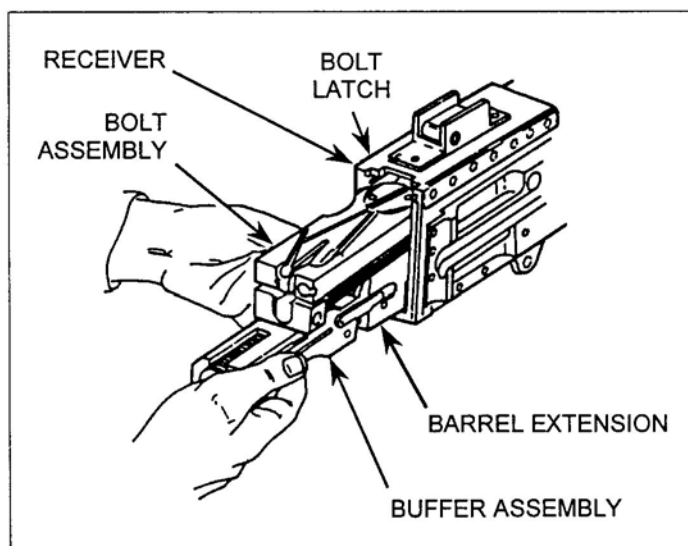

Figure 39. Installation of the bolt assembly within the barrel extension and buffer assembly.
- (19) If you cannot install the bolt this way, remove the barrel extension and buffer assembly from the receiver. Install the bolt assembly into the barrel extension and buffer assembly, then install them in the receiver (Figure 39).